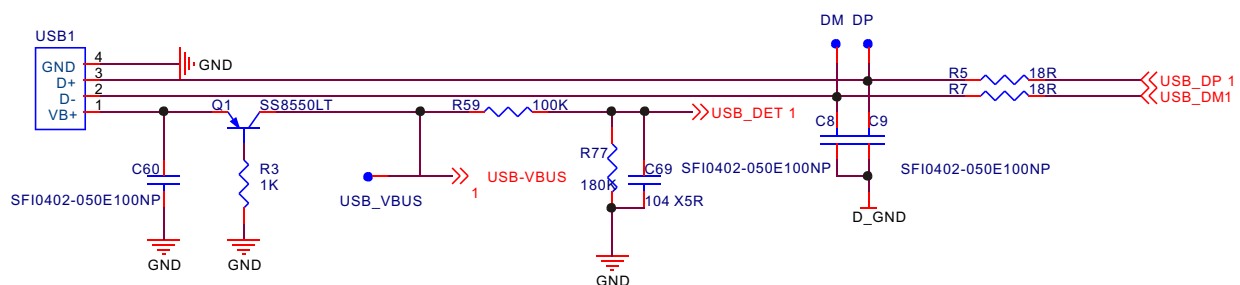

Figure 3.2.4.1 USB jack circuit schematic diagram
1. USB jack circuit is shown in the figure 3.2.4.1: